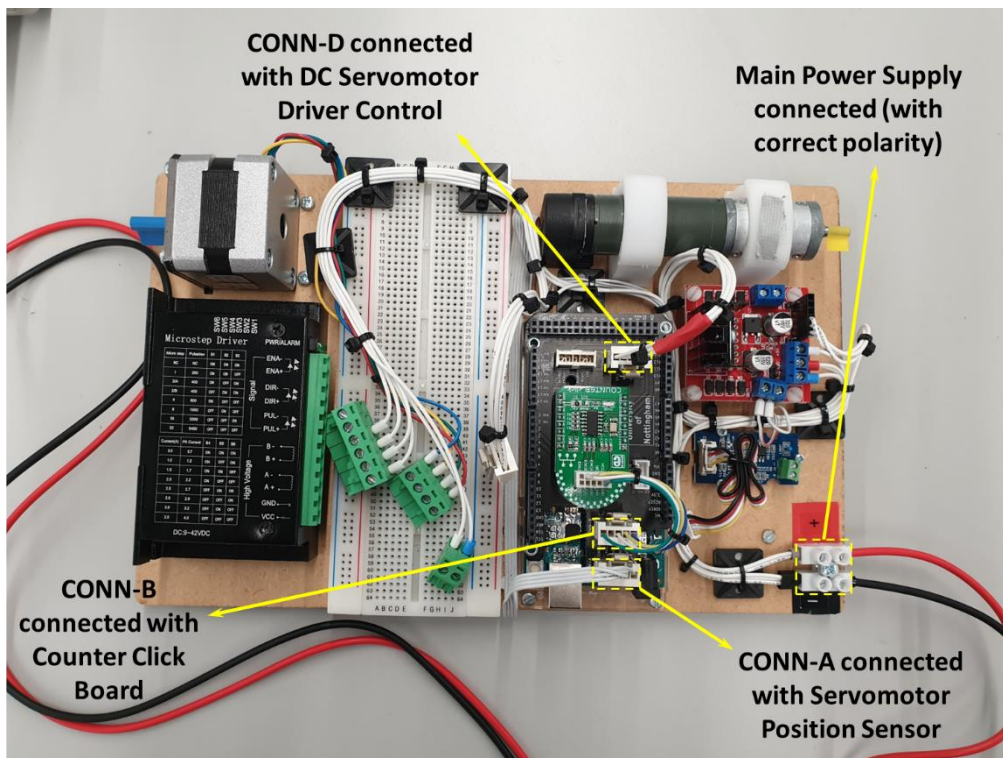

Figure 13 Hardware setup for Lab-1 Exercise-2
- Get a demonstrator to check your wiring!** It should look like Figure 13.